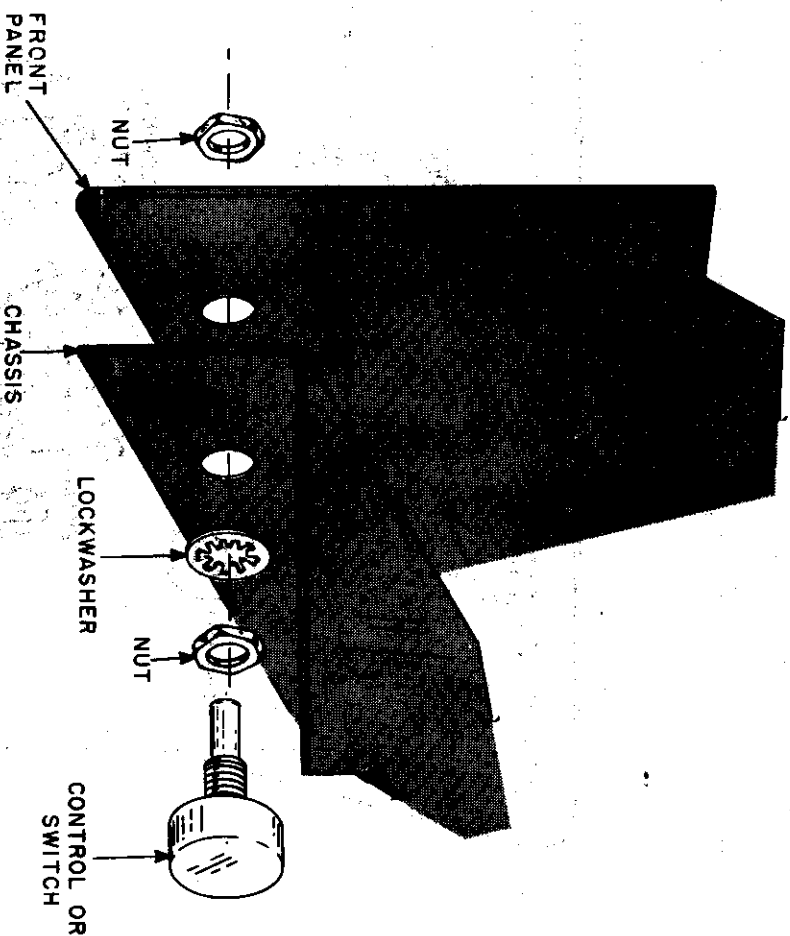

FIGURE 2. HOW TO MOUNT A CONTROL
- (✓) Put one of the large nuts and a lockwasher on the Sensitivity Switch (S-1). Insert the shaft of the switch through the first hole from the left in the chassis and panel. Position the switch so that the blank space between terminals 1 and 11 is toward the bottom of the chassis. Secure the switch in position to the chassis and front panel with another large nut. See Figure 2.